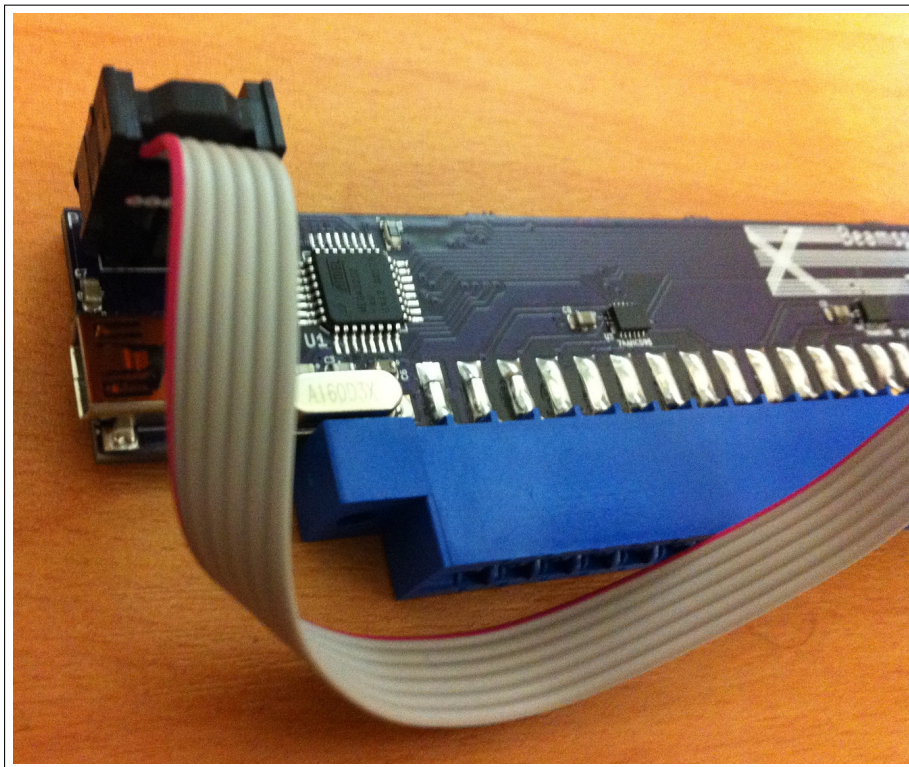
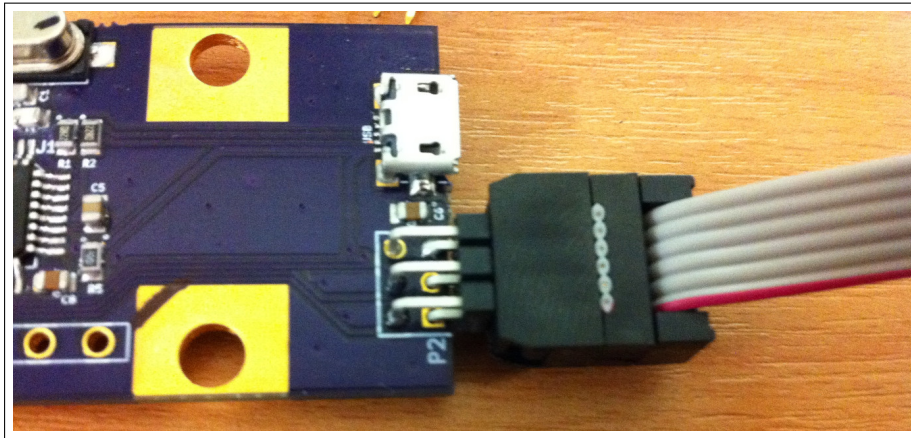
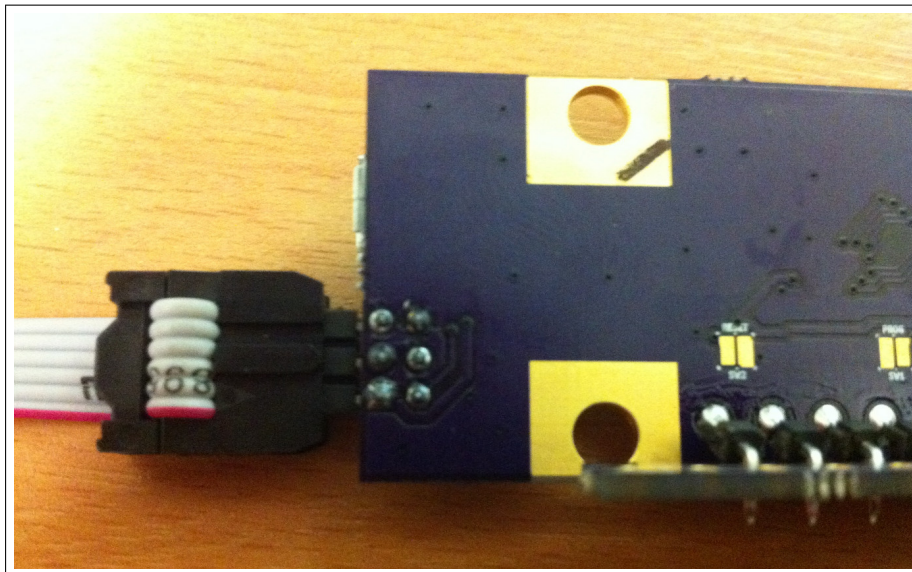

Figure 2: Ribbon cable orientation on Beamspring—note red wire at left-hand-side
Figure 3: Ribbon cable orientation on Model F—note red wire at bottom
Figure 4: Ribbon cable orientation on 3178—note red wire at bottom
2. Plug the ribbon cable into the keyboard controller. Use Figure 2 on the preceding page, Figure 3 and Figure 4 on the following page to determine